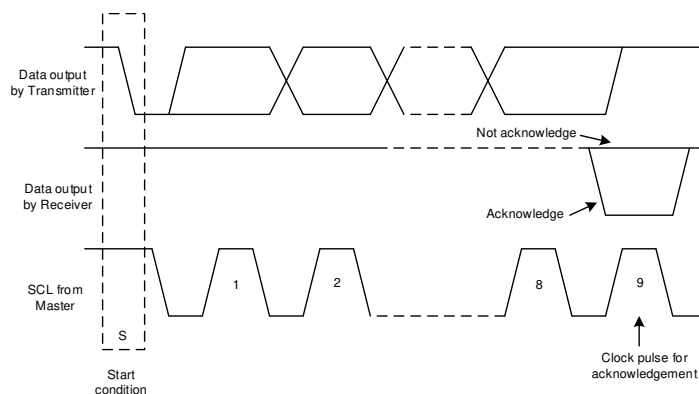
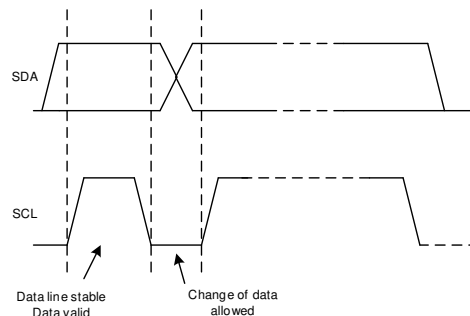

Figure 6. Acknowledge and Not Acknowledge on the I²C Bus
Figure 8. Bit Transfer on the I²C Bus
Other than specific timing signals, the I²C interface works with serial bytes. At the end of each byte, a ninth clock cycle generates and detects an acknowledge signal. Acknowledge is when the SDA line is pulled low during the high period of the ninth clock cycle. A not-acknowledge is when the SDA line is left high during the high period of the ninth clock cycle as shown in Figure 6.
2. The master then generates the SCL pulses, and transmits the 7-bit address and the read/write direction bit (R/W) on the SDA line. During all transmissions, the master makes sure that data are valid. A valid data condition requires the SDA line to be stable during the entire high period of the clock pulse, as shown in Figure 8. All devices recognize the address sent by the master and compare it to their internal fixed addresses. Only the slave device with a matching address generates an acknowledge by pulling the SDA line low during the entire high period of the 9th SCL cycle, as shown in Figure 6. Upon detecting this acknowledge, the master knows the communication link with a slave has been established.